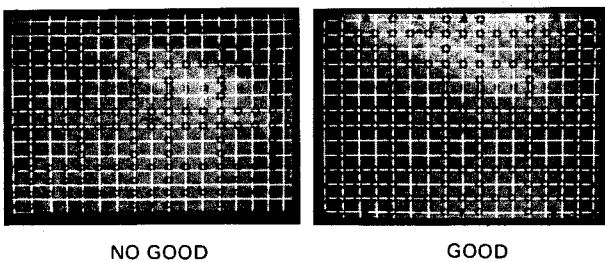

Fig. 5-4-19
- o Adjust VR2 (G H-LIN1), L2 (G H-LIN2) and VR6 (G V-LIN) so that each center (white) portion of ball on the linearity chart aligns with each cross point of the crosshatch pattern. (Fig. 5-4-19)